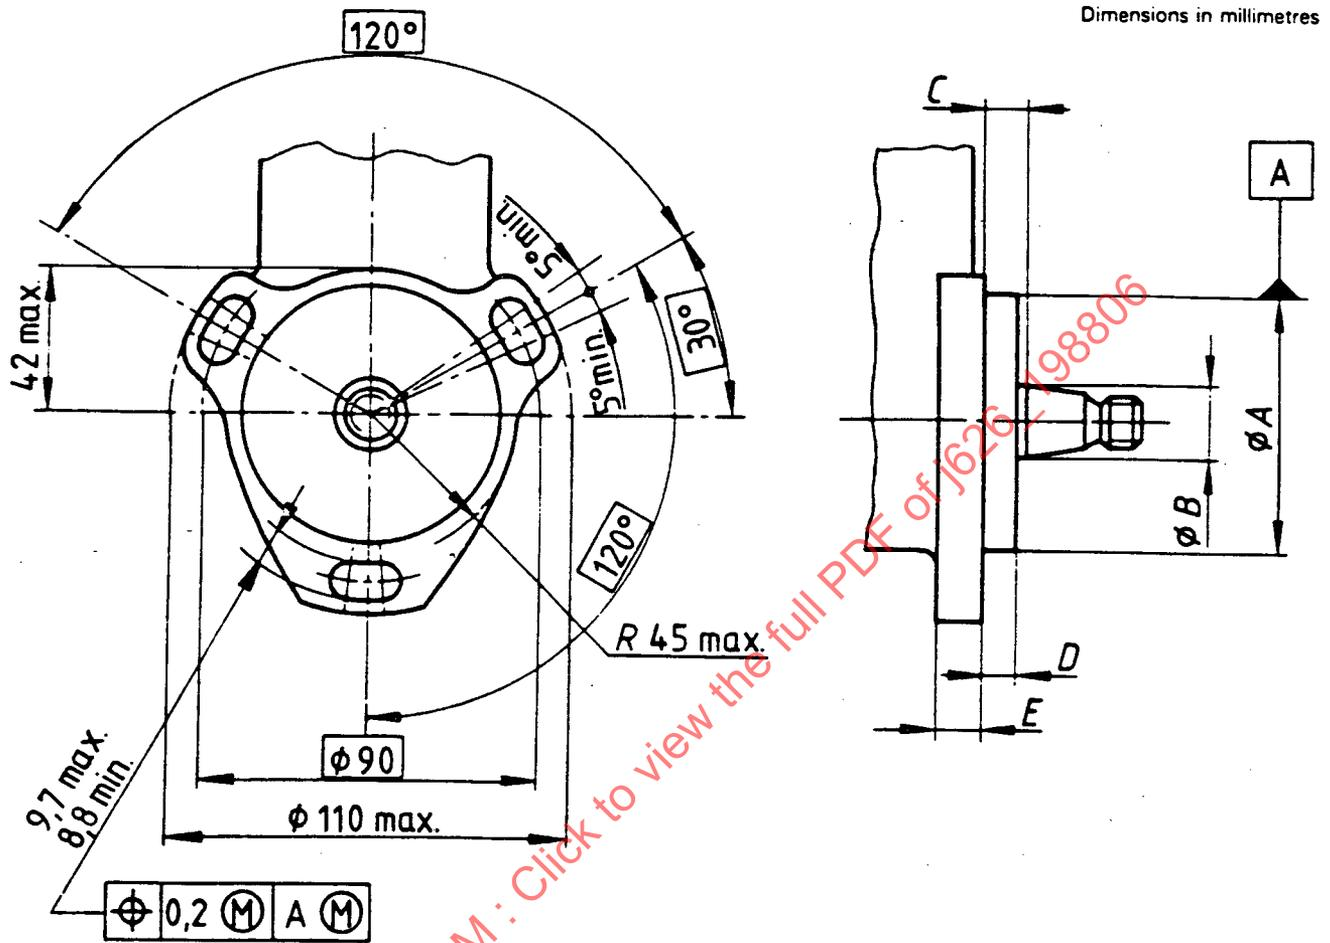

FIGURE 4 - Fuel Injection Pumps - Type 4 End-Mounting Flange
3.2.4 Type 4 Flange: See Fig. 4 and Table 4: